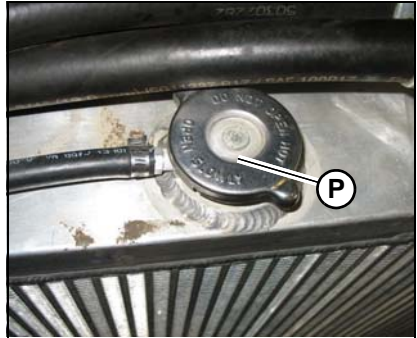

Figure 105 – Radiator Cap
3. Slowly loosen radiator cap (P, Figure 105) and allow pressure to escape. Remove cap.